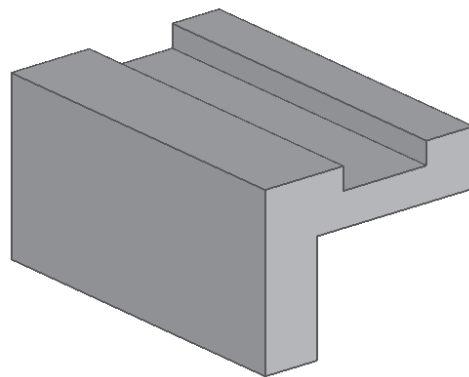

Figure 4-79 Base feature of the model
6. Choose the **OK** button to create the base feature. Turn off the display of the sketch. The base feature of the model is shown in Figure 4-79.